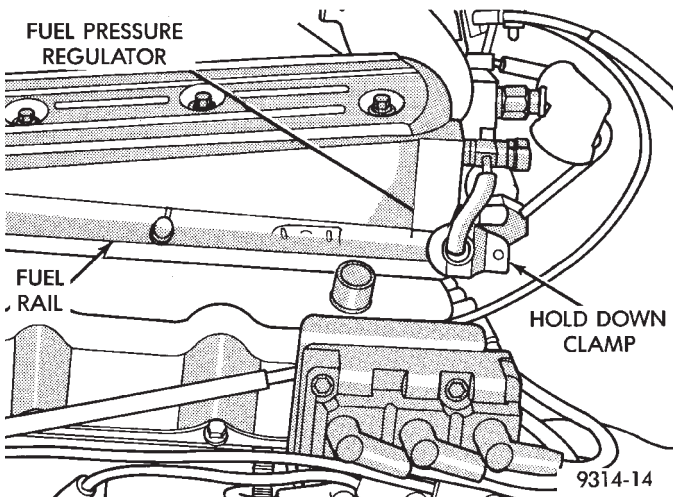
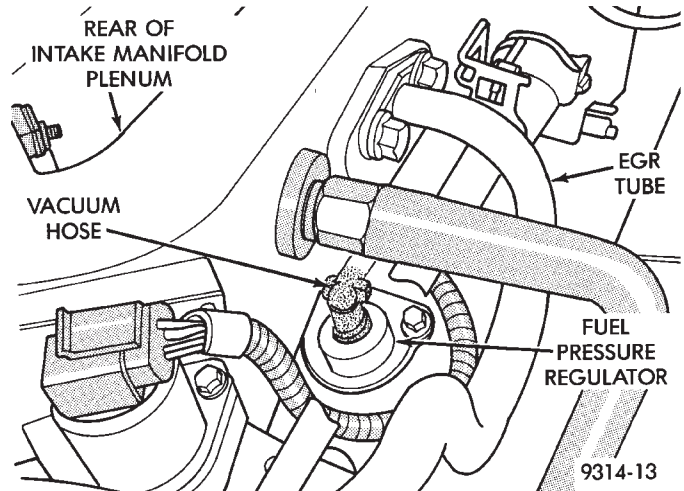

Fig. 18 Fuel Pressure Regulator—3.3L Engine
Fig. 19 Fuel Pressure Regulator—3.5L Engine
The fuel system uses a vacuum balanced, non-adjustable fuel pressure regulator. The powertrain control module (PCM) does not operate the regulator. On 3.3L engines, the pressure regulator sits in the fuel rail (Fig. 18). On 3.5L engines the regulator attaches to the fuel return tube at the rear of the engine below the intake manifold plenum (Fig. 19).
- (1) Disconnect negative cable from battery.
- (2) Release fuel system pressure. Refer to Fuel System Pressure Release Procedure in this section.
- (3) Disconnect vacuum hose from regulator.
- (4) Remove holddown clamp screw (Fig. 18). Remove clamp.